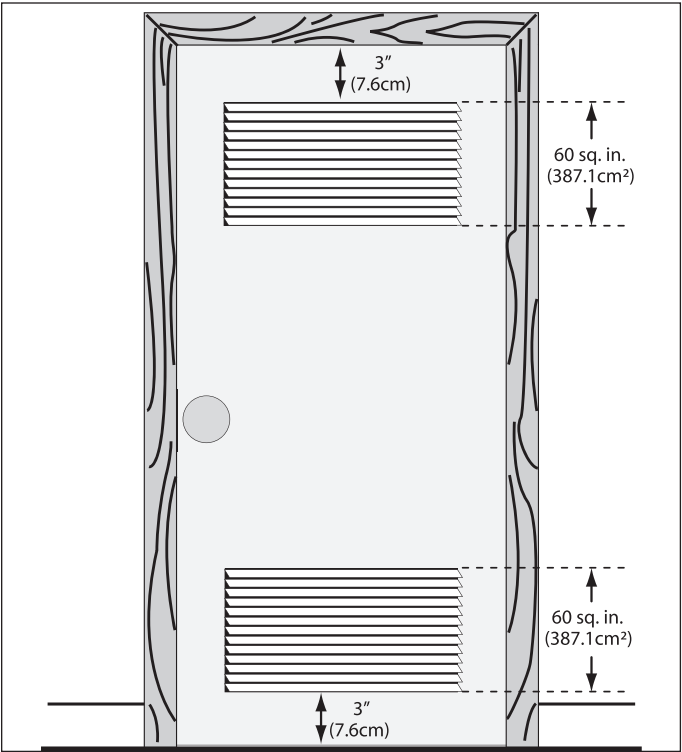

Figure 2-6.
4. Closet door ventilation required: A minimum of 120 square inches (774.2 cm²) of opening, equally divided at the top and bottom of door, is required. Openings should be located 3 inches (7.6 cm) from bottom and top of door. Openings are required to be unobstructed when a door is installed. A louvered door with equivalent air openings for the full length of door is acceptable. (See Figure 2-6 & 2-7)